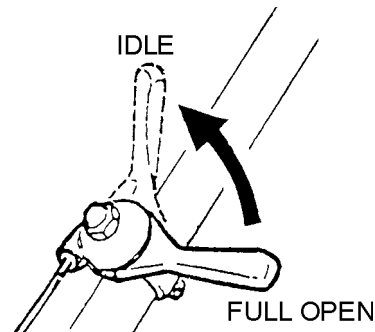

Figure 11. Throttle Lever (Idle)
- Move throttle lever quickly from the **FULL OPEN** to **IDLE** position (Figure 11) and run the engine for three minutes at low speed. After the engine **cools**, turn the engine start/stop switch to the **"STOP"** position (Figure 6) until engine comes to a complete stop.